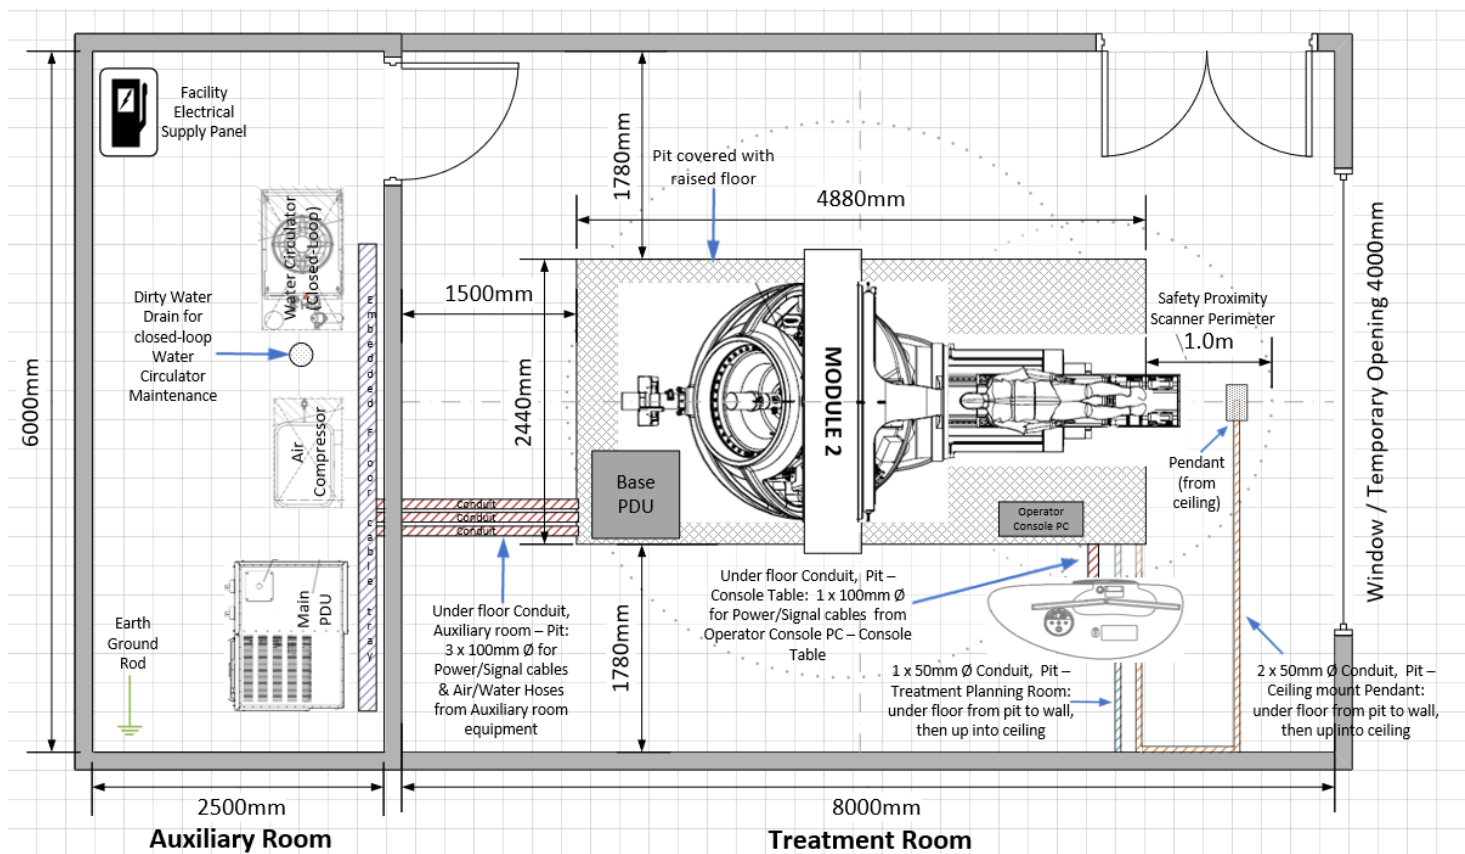

Figure 1 - Typical Room Layout
- **Figure 1** shows a typical layout for the Treatment Room and Auxiliary Room.
- The Auxiliary Room is located adjacent to the Treatment Room (see Figure 1). Three (3) 100mm (4") conduits need to be installed under the floor between the Auxiliary Room and the Treatment Room Pit to run the Power & Signal cables, Air and water hose interconnections to the ZAP-X system.
- The Treatment Room must be at ground level with access to a minimum 3.7 m (12' 0") wide x 3.0 m (9' 10") high exterior building opening for installation of the ZAP-X system. The opening may be temporary for the installation phase. (Recommended width of opening 4.0m wide x 3.0m high for ease of access for transport modules, additionally it is recommended that the opening is aligned with the pit center line) See Figure 1 - Typical Room Layout.